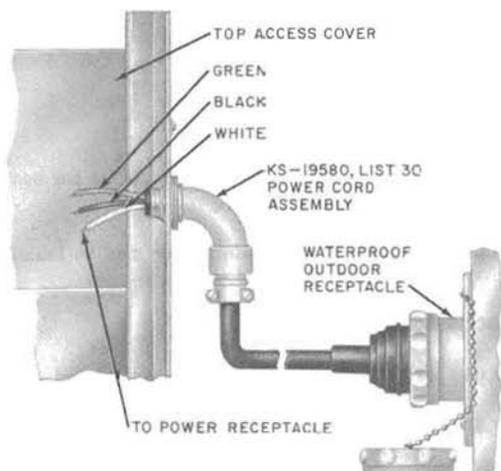

Fig. 18—KS-19580, List 30 Power Cord Assembly Overhead Entrance
- 3.10 For overhead entrance with plug-in features, use KS-19580, List 30 power cord assembly and install per Fig. 18.